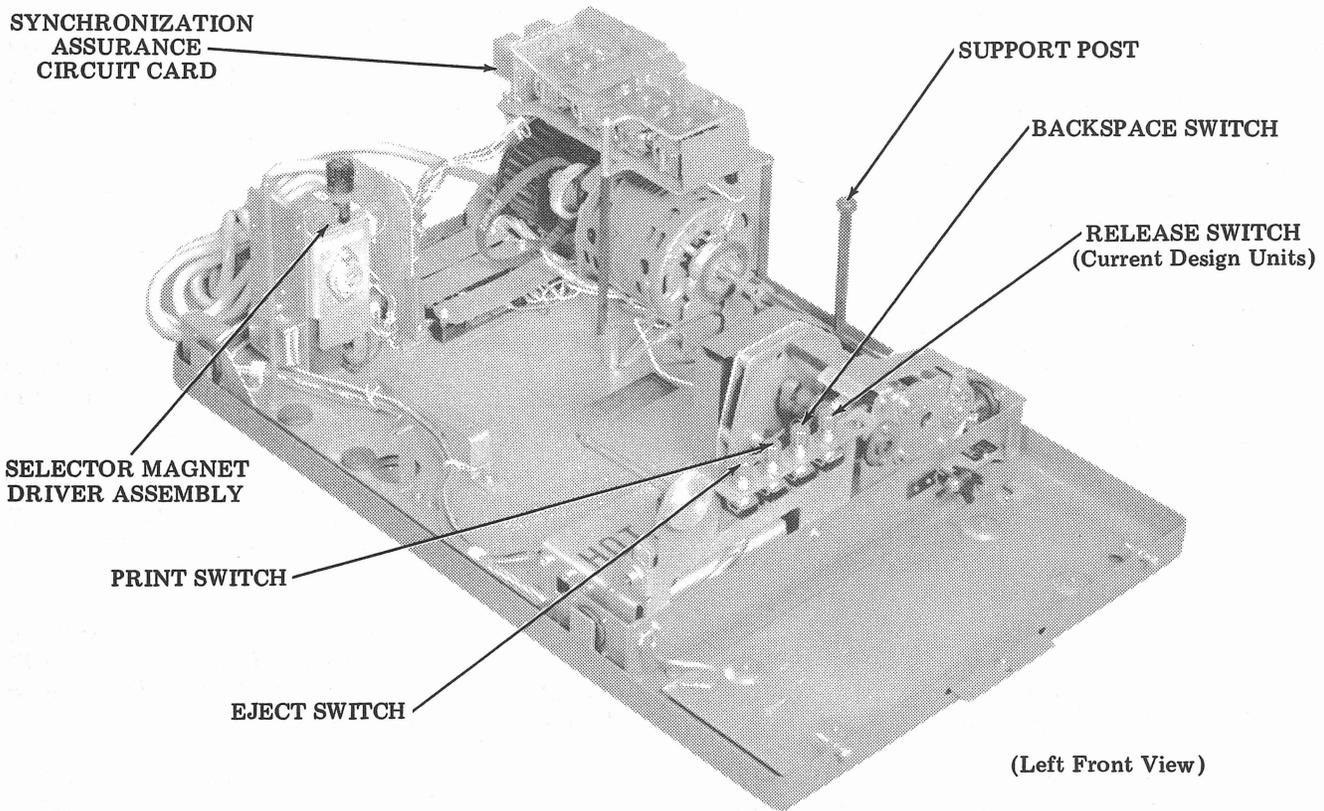

Figure 3 - 35 Edge Punched Card Typing Reperforator Set Base
2.27 Remove the synchronization assurance circuit card (TP333245) from its connector (TP182536 - Figure 3).